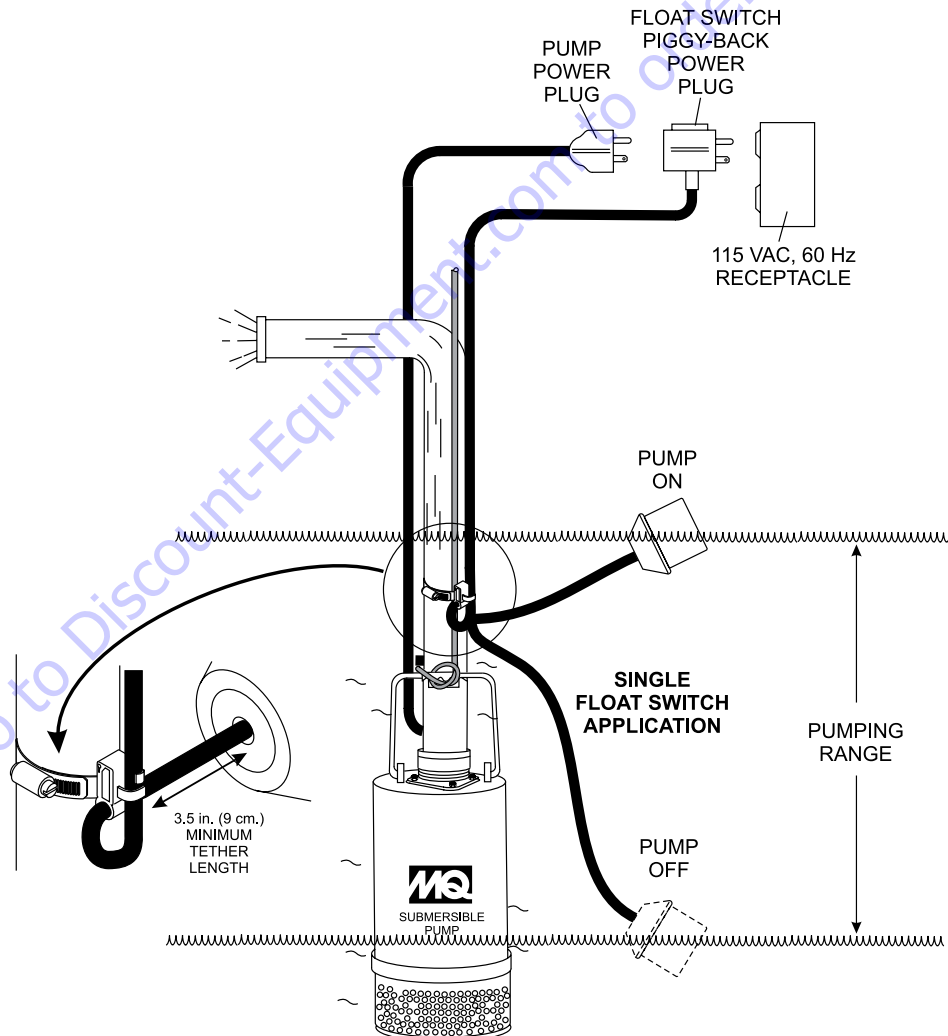

Figure 6. Single Float Switch Application Diagram
Single or dual control float switches (Figure 6) can be used for the unattended operation of the submersible pump. When using the piggy-back power configuration (plug), the ST-2010 series pumps DO NOT require the use of a control box. In this configuration (piggy-back), the SW-1 (single float switch) or SW-2 (dual float switch) are required. The illustration below is an example of a single float switch application.
1. Determine the required cord tether length as shown in Figure 6 and Table 3.
2. Place the cord into the clamp as shown in Figure 6
3. Secure the clamp to the discharge hose as shown in Figure 6. DO NOT install cord under hose clamp.
Figure 6 shows a single float switch application. For dual float switch capability use a Model SW-2 mercury type float switch.
2. Connect the float switch or switches to the AC power receptacle as shown in Figure 6.